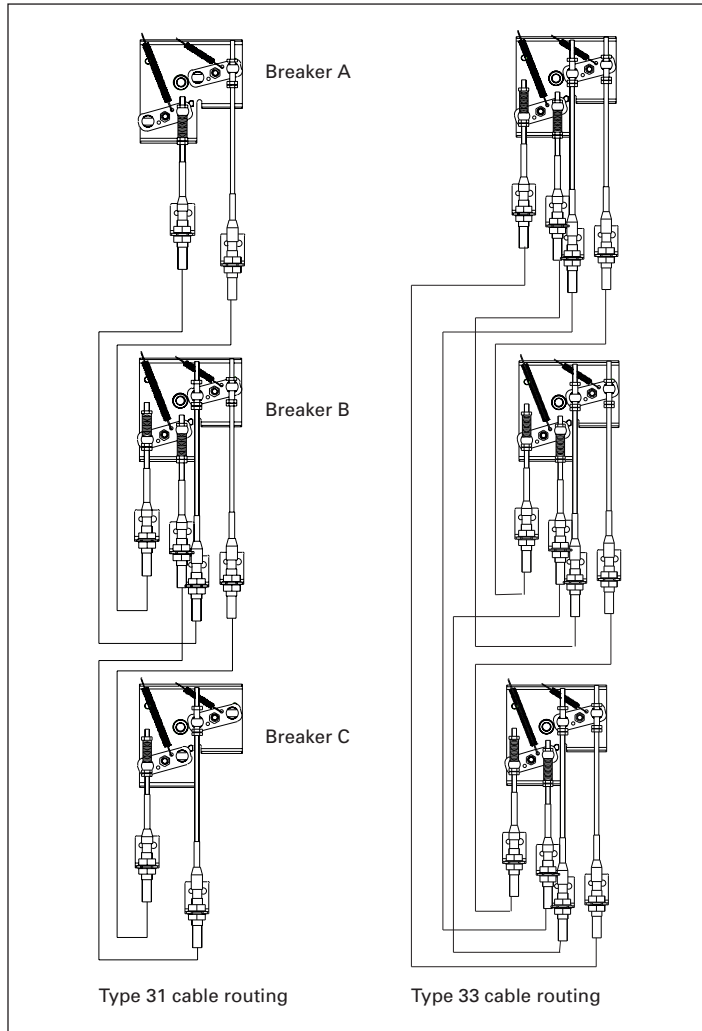
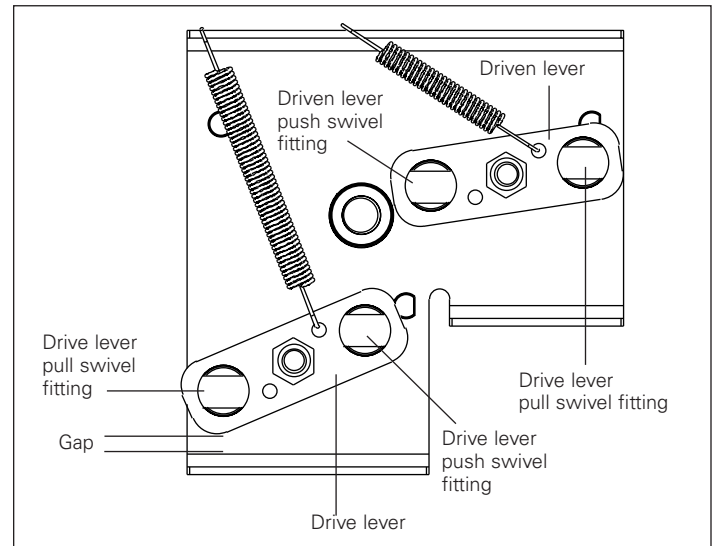

Figure 11. Cable routing for Type 31 and 33 interlock configurations
Figure 12. Push and pull swivel fitting identification
**FIGURE 11 SHOWS THE TYPICAL CABLE ROUTING FOR TYPE 31 AND 33 INTERLOCK CONFIGURATIONS. NOTICE THAT, DEPENDING ON THE POSITION OF THE BREAKER WITHIN THE INTERLOCK CONFIGURATION, THE CABLES WILL BE ATTACHED IN DIFFERENT LOCATIONS. THE CABLE MOUNTING ON BOTH POINTS OF THE DRIVE AND DRIVEN LEVERS ARE DESCRIBED BELOW. TABLE 4 SHOWS THE TYPE 31 AND TYPE 33 INTERLOCK LOGIC DEPENDING ON POSITION.**
To attach the drive (short rod) end of a cable to the drive lever pull swivel fitting (refer to **Figure 12**), follow the directions below.
To attach the drive (short rod) end of a cable to the drive lever push swivel fitting (refer to **Figure 12**), follow the directions below (see **Figure 13**).
This step describes how to attach the driven (long rod) end of a cable attached to an interlock assembly on another breaker to the cable bracket and interlock assembly on this Type NF frame breaker. Refer to **Figure 11** and **Figure 12** for cable routing and correct swivel fittings to which the cables are connected.
After the driven end has been adjusted and the bulkhead nuts have been tightened, perform adjustments on the drive (short rod) end of the cable. Adjust the bulkhead nuts up (move threaded portion down) such that the gap between the drive lever and the interlock assembly base shown on **Figure 12** is less than 4,5 mm (0,18 in).